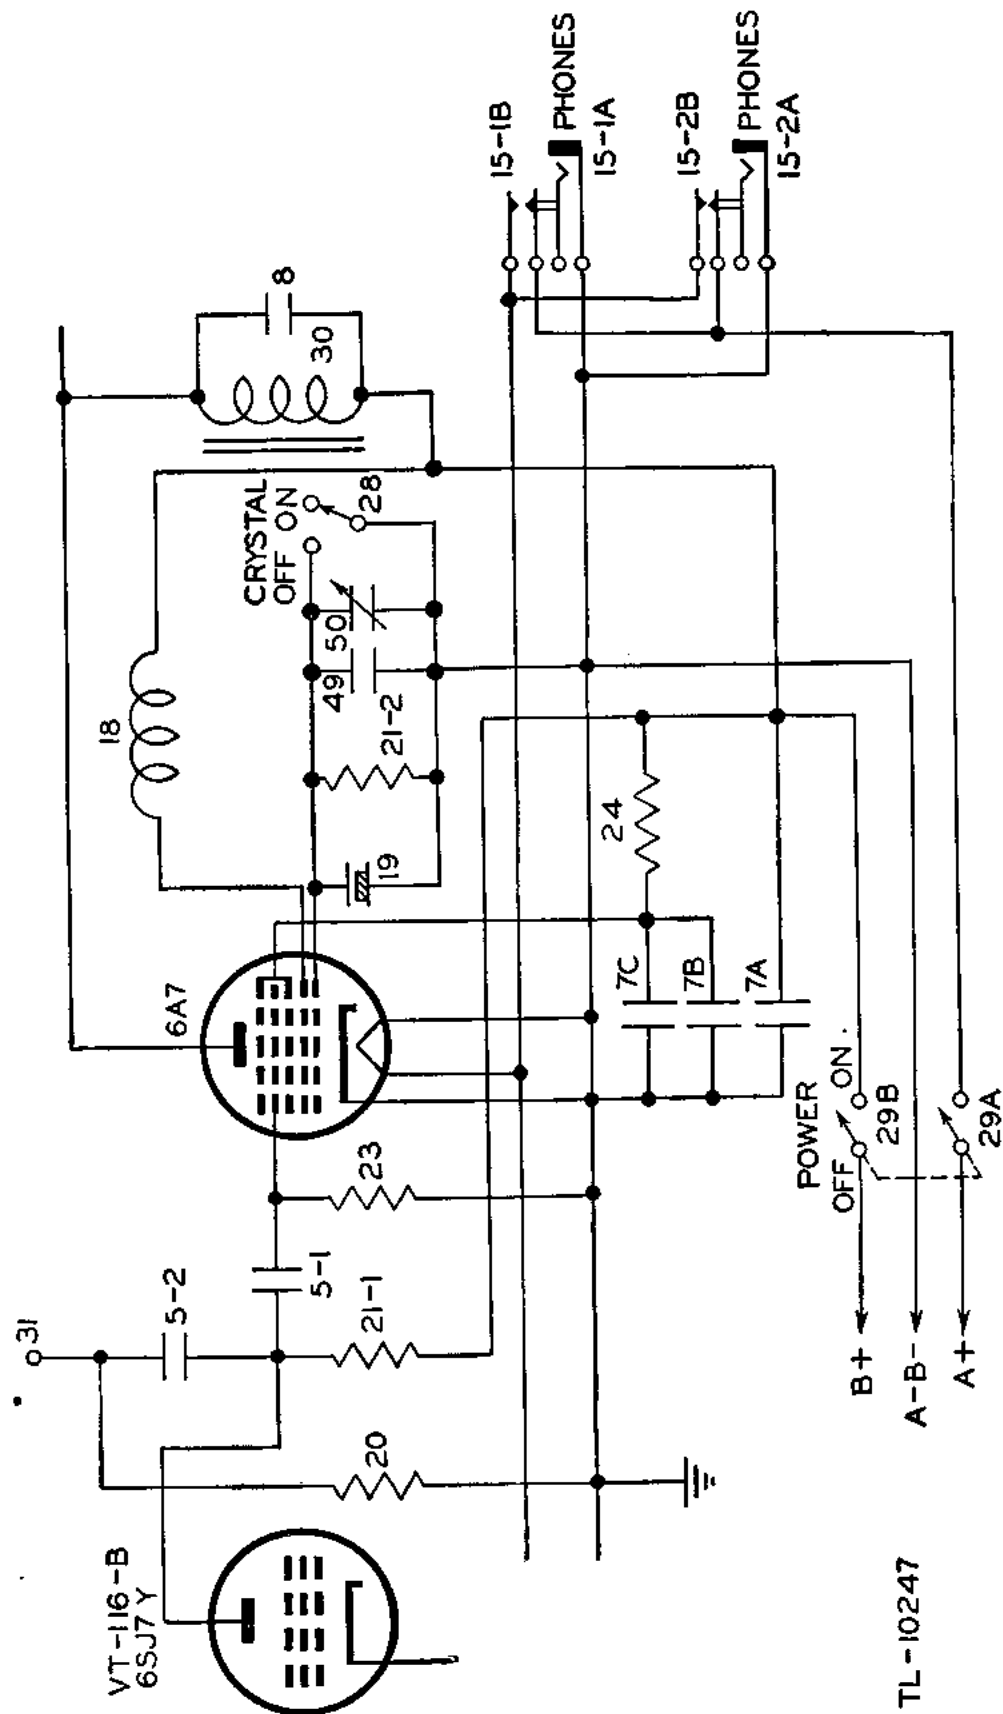
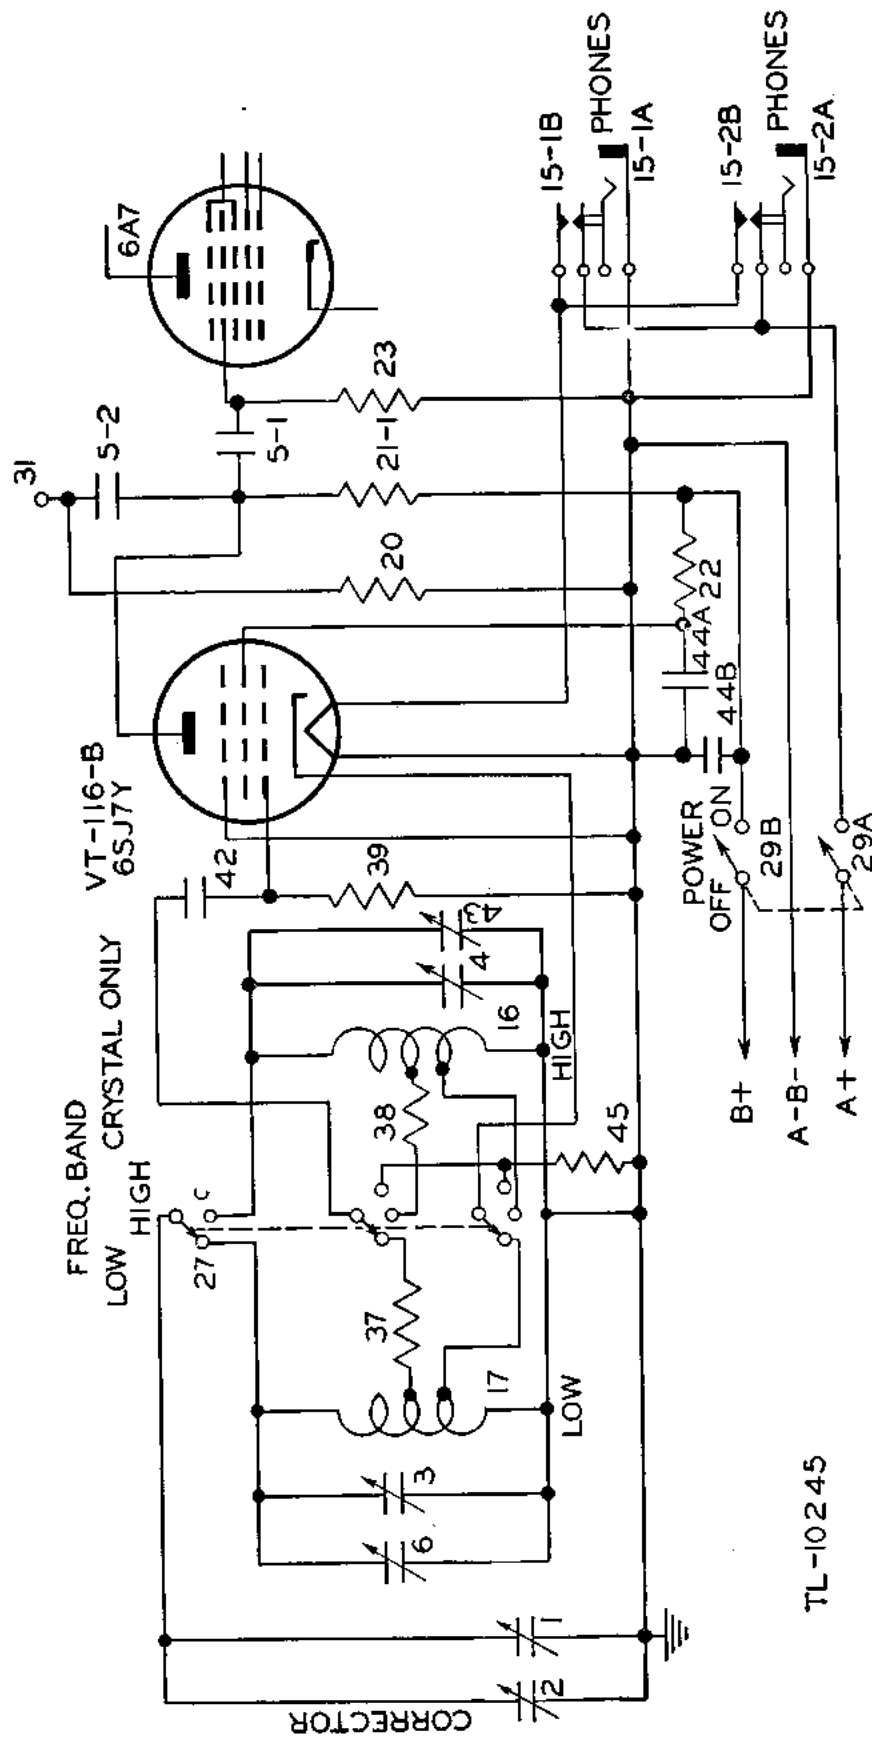
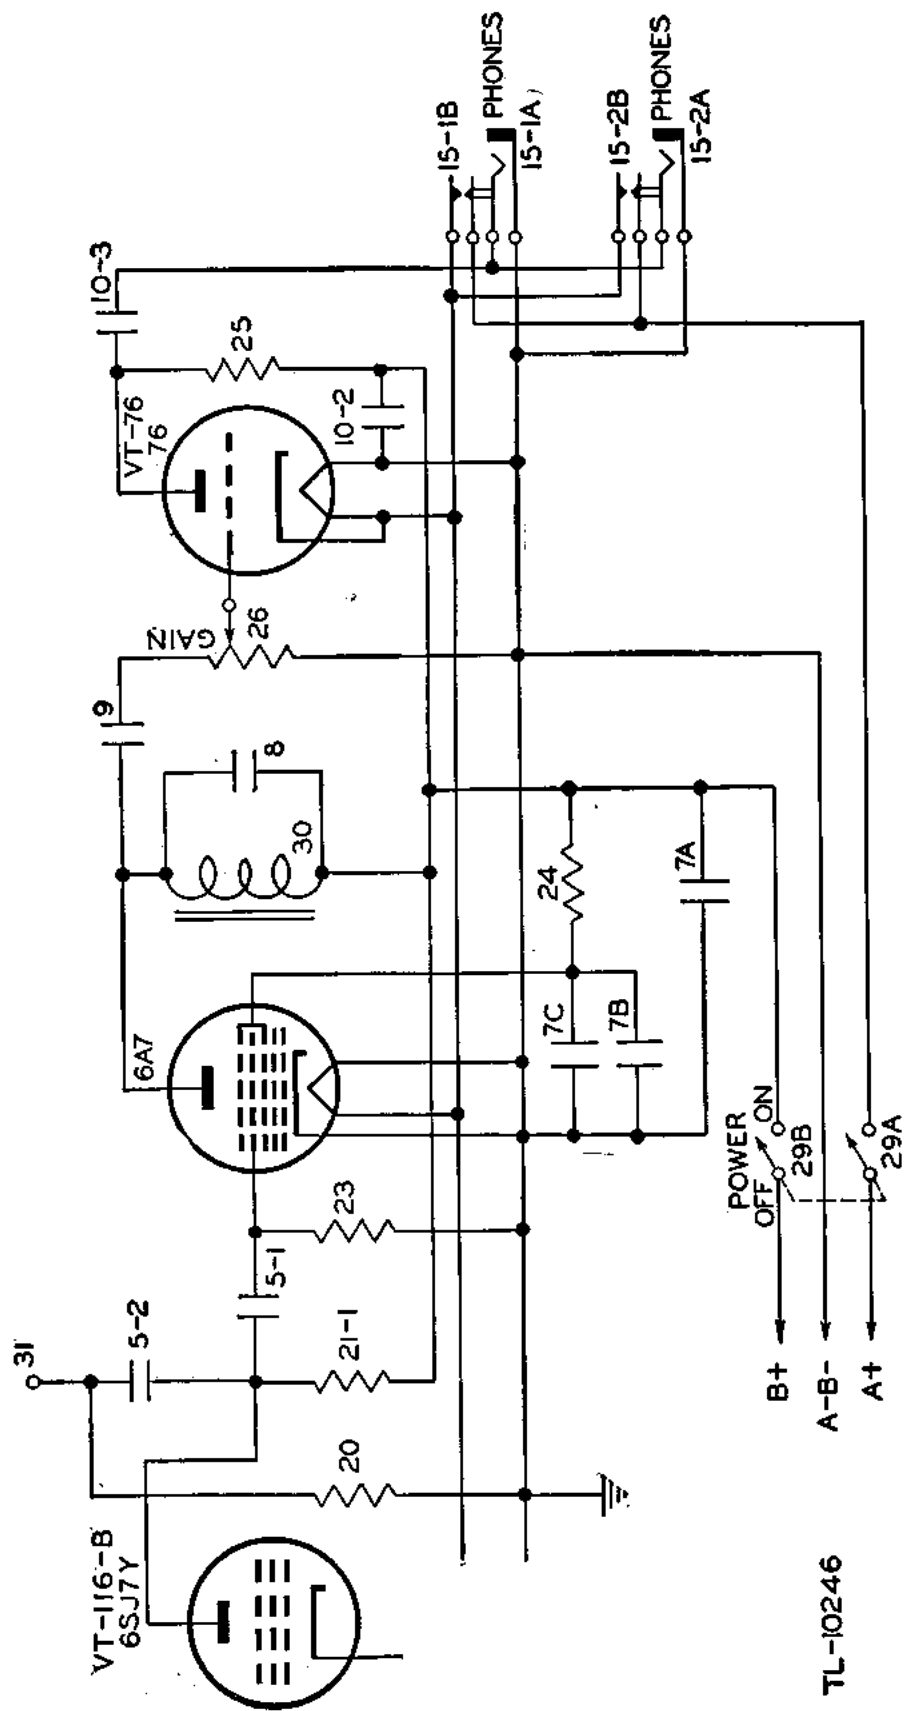

Figure 51. Frequency Meter BC-221-(3), functional diagram, crystal-oscillator circuit.
Figure 52. Frequency Meter BC-221-(3), functional diagram, variable frequency oscillator circuit.
Figure 53. Frequency Meter BC-221-(3), functional diagram, detector and audio-amplifier circuits.
The cathode, the inner grid, and the anode grid of the type 6A7 tube constitute the active elements of a crystal-controlled triode oscillator (fig. 51) which operates at a fixed frequency of 1,000 kc when the **CRYSTAL** switch 28 is placed in the **ON** position. The crystal circuit is removed from operation when the **CRYSTAL** switch 28 is turned to the **OFF** position, thus placing a short circuit around the crystal. The circuit is designed to generate considerable harmonic energy so that it can be used to calibrate the variable frequency oscillator at several points over its entire range. The necessary plate circuit impedance is built up across an untuned inductance 18 which is housed in a bakelite case of rugged construction and thoroughly sealed against moisture. Resistor 21-2 is the crystal-oscillator grid leak and furnishes bias for proper oscillator operation. The variable capacitor 50 is connected across the crystal 19 for the purpose of adjusting the frequency of the crystal to a
closer point than can be economically obtained by grinding alone. When the frequency meters are adjusted during manufacture, the variable capacitor is set up to produce a frequency of $1,000 \text{ kc} \pm 5$ cycles at 20° centigrade. The fixed capacitor 49, shunted across the crystal, minimizes any change in fundamental frequency due to small changes in the crystal capacitance. Note that parts 49 and 50 were omitted from early production of Frequency Meter BC-221-F. Further reference to figure 51 shows that the output of the crystal oscillator is electron coupled to the antenna through the No. 4 grid of the type 6A7 tube and capacitors 5-1 and 5-2 in series. Note that the crystal oscillator can be used alone (par. 22b (1) (b)), by having the CRYSTAL and POWER switches in the ON position and the FREQ. BAND LOW-HIGH-CRYSTAL ONLY switch 27 in the CRYSTAL ONLY position. Resistor 24 supplies voltage to the screen grid of the type 6A7 tube. Capacitors 7b and 7c, in parallel, bypass the screen grid to ground. Capacitor 7a is a bypass capacitance across the plate voltage supply. For further details on the crystal oscillator, see paragraph 22.
Tube VT-116-B (6SJ7Y) is used in an electron coupled circuit as the variable frequency oscillator. (See fig. 52.)
It has been stated that the three inner elements of the type 6A7 tube are used in the crystal oscillator circuit. The remaining elements of the tube (comprising the control grid, screen grid, and plate) are used as a high gain screen grid detector to which, by tube structure, the crystal oscillator is electronically coupled. (See fig. 53.) The r-f voltage, developed across the load resistor 21-1 in the plate output circuit of the variable frequency oscillator is coupled to the control grid of this detector through a small fixed capacitor 5-1. The antenna plug 31, mounted on the chassis, is also coupled to the control grid of the detector through the coupling capacitors 5-2 and 5-1 in series. Resistor 23 is the detector tube grid leak. As a result of these couplings to the control grid, and dependent on the position of the CRYSTAL and FREQ. BAND switches, the detector mixes the variable frequency oscillator output with the fundamental and successive harmonics of the crystal oscillator or with the radio transmitter frequency to be measured. When the crystal switch is thrown to the OFF position, the crystal 19 and its associated circuit elements are short-circuited and the inner grid of the type 6A7 tube is grounded. (See fig. 51.) By reference to figures 52 and 53, it can be seen that the antenna plug 31 is also coupled directly to the variable frequency oscillator output through capacitor 5-2 alone. Thus, the antenna plug 31 serves the dual